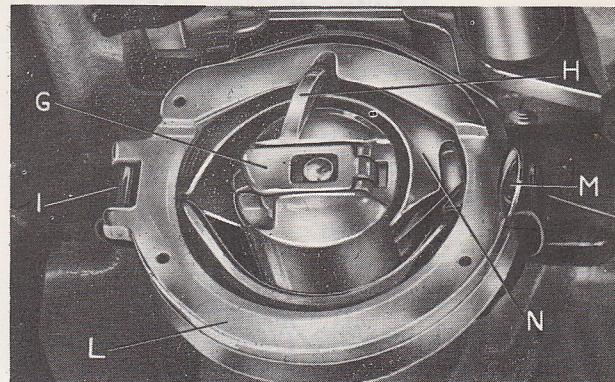

Fig. 2
- Lift latch «G» (fig. 2) and remove bobbin case.
- Insert bobbin case on centre stud of shuttle, holding it by latch «G» and taking care that finger «H» goes into notch of shuttle ring (fig. 2). Release latch «G» and press on bobbin case until a click is heard.
- push spring «M» (fig. 2) sideways and remove shuttle ring «L» by turning it around hinge «I»,